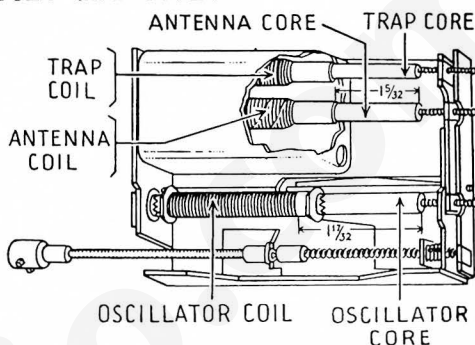

FIGURE 1 — Inductive Tuning Unit for Models C1808, C1908
- b. Adjust antenna and oscillator cores according to dimensions given in Figures 1, 2 and 3.
- b. Adjust the antenna core according to dimensions given in Figures 1, 2 and 3.